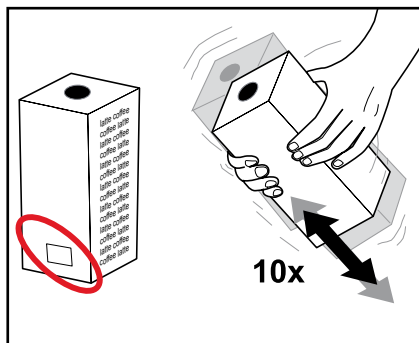

Fig. 15
- Caution:** Read the instructions on the product pack. Never use a damaged product pack. Do not use a product pack if the „Best before“ date has expired (fig. 15).
3. Shake the product pack at least 10 times (fig. 15).